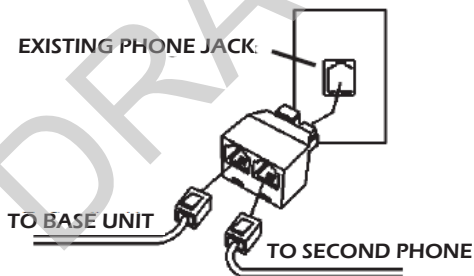

Figure 3. Connecting to a second phone.
2. Plug the supplied telephone line splitter into the telephone jack in the wall (See Figure 3).